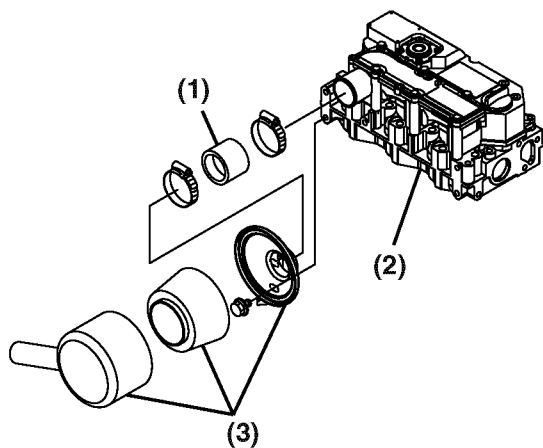

Figure 5-128
1. Remove the air intake hose (**Figure 5-128, (1)**) attached to the intake manifold.
2. Remove the air silencer (**Figure 5-128, (3)**) from the cylinder head (**Figure 5-128, (2)**).
Air enters the air silencer (**Figure 5-128, (3)**), which is mounted on the end of the intake manifold (rocker arm cover). The air flows to the intake manifold and proceeds to each cylinder.
1. Install the air intake hose (**Figure 5-128, (1)**) to the intake manifold.
2. Install the air silencer (**Figure 5-128, (3)**) on the air intake hose.